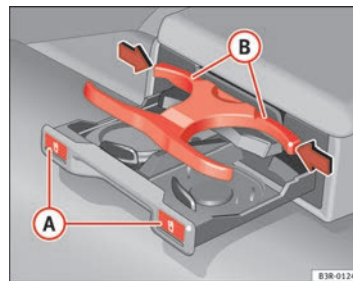

Fig. 132 Drink holder in the rear armrest
- Press the symbol  **A** ⇒ fig. 132.